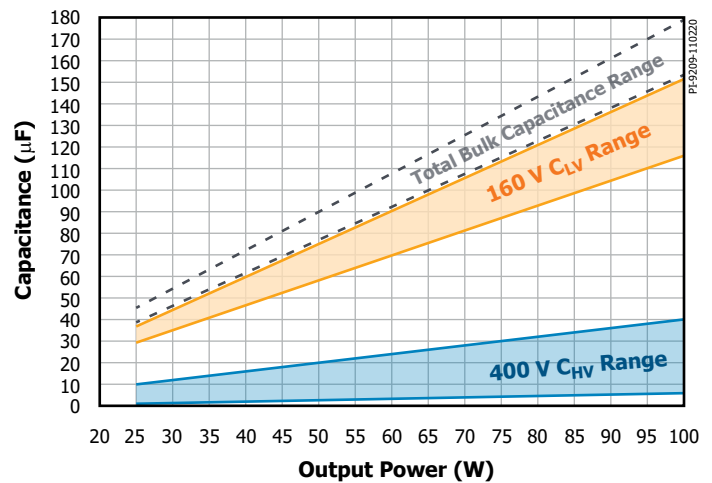

Figure 2. Typical Component Value Ranges for Optimal Space Saving and Converter Operation.
The selection chart of Figure 2 illustrates the recommended range of  $C_{HV}$  and  $C_{LV}$  values to achieve the required total input capacitance for a given output power.
The capacitance split between  $C_{HV}$  and  $C_{LV}$  can differ from the proposed values in Figure 2 based on application requirements but it is recommended that the total capacitance is within the suggested range.
Considerations section). 400 V electrolytic capacitors are lower cost and when selected according to Figure 2 also provide up to 50% size reduction compared to traditional designs. A variety of standard input EMI filter configurations can be adopted depending on the form factor of a particular application. The MinE-CAP IC is designed to partner directly with the InnoSwitch family of power supply ICs with a minimum of external components. The existing InnoSwitch V pin resistor is connected to the MinE-CAP VTOP pin while a resistor connected to the VBOT pin enables  $C_{LV}$  voltage monitoring. Input voltage and fault information is transmitted from the MinE-CAP LINE (L) pin to the InnoSwitch V pin with no additional components. The MinE-CAP IC also derives its bias supply directly from the InnoSwitch BPP pin.
In high-line start-up condition ( $V_{IN} > 150$  VAC), the active charging algorithm of  $C_{LV}$  described above is not employed. When selected according to Figure 2,  $C_{HV}$  alone can deliver full power converter output power at line voltages above 150 VAC. The InnoSwitch power control IC is therefore enabled immediately using the V pin output signal while  $C_{LV}$  is trickle charged at a lower rate until the steady-state  $C_{LV}$  voltage is reached. The voltage across  $C_{LV}$  is subsequently precisely monitored and recharged as required depending on input line conditions.
The value of the input capacitors can be determined based on the Capacitance vs. Output Power curve shown in Figure 2. For an output power of 65 W, the nominal capacitance for the high-voltage capacitor,  $C_{HV}$ , should be 30  $\mu$ F while the low-voltage capacitor,  $C_{LV}$ , should be around 90  $\mu$ F. Both capacitors are mounted with their axial lines parallel to the PCB; thus, both capacitors must have a maximum diameter of 10 mm to fit the 12 mm height requirement of the design. The remaining 2 mm clearance is for the installation of a heat spreader with insulation as well as to account for enclosure tolerances. Using the above requirements and after a few test iterations and based on component availability, the final input capacitor specifications are as follows: